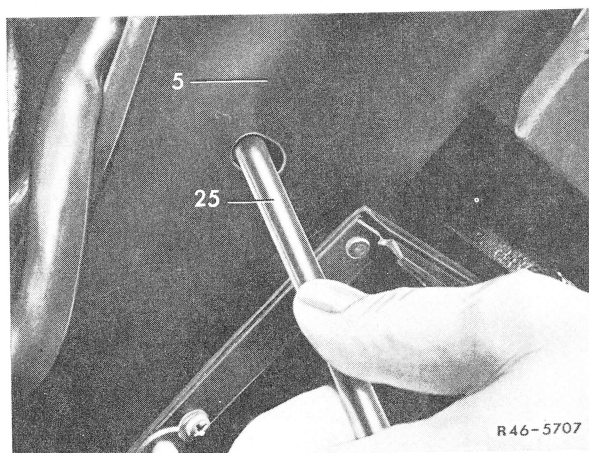

Fig. 4
10 Locate steering spindle with assembly pin (25) through bore in jacket tube (5) (Fig. 4).